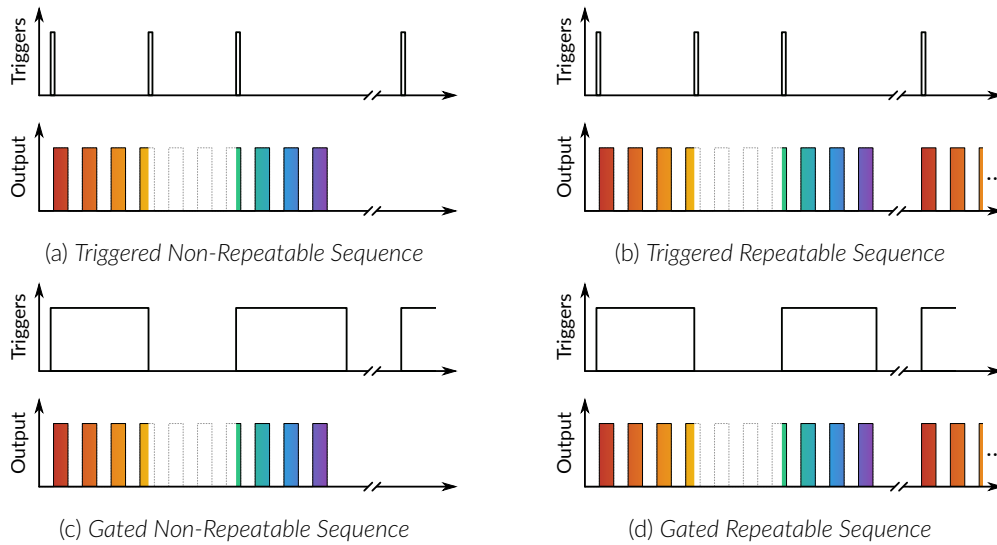

Figure 5.5: Continue Sequence Mode
- **Continue:** This mode activates the channel sequence when a rising edge greater than 3.3 V is detected on the BNC input (Fig. 5.5). The following input pulse (when *Triggered*, Fig. 5.5a) or a falling edge (when *Gated*, Fig. 5.5c) will turn off the output, but the sequence will continue. The output will be turned back on at the reception of the following rising edge. Triggers only affect the output voltage value. When the **Repeatable sequence** checkbox is checked, the sequence will restart with the arrival of the first input pulse after the sequence has finished (Figs. 5.5b and 5.5d).